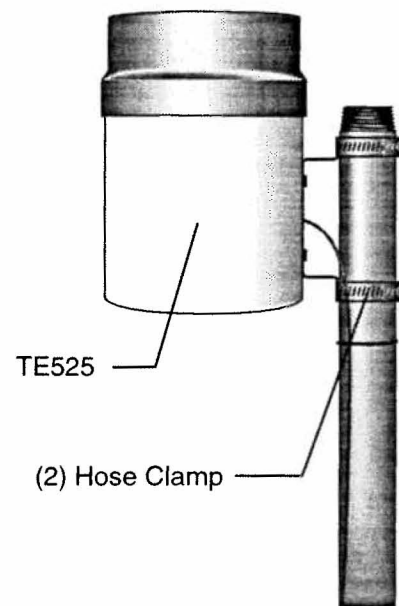

FIGURE 5-12. TE525 Texas Electronics Rain Gage
1. Mount the TE525 rain gage to a vertical pipe as shown in Figure 5-12. Mounting the gage directly to the tower is not recommended.